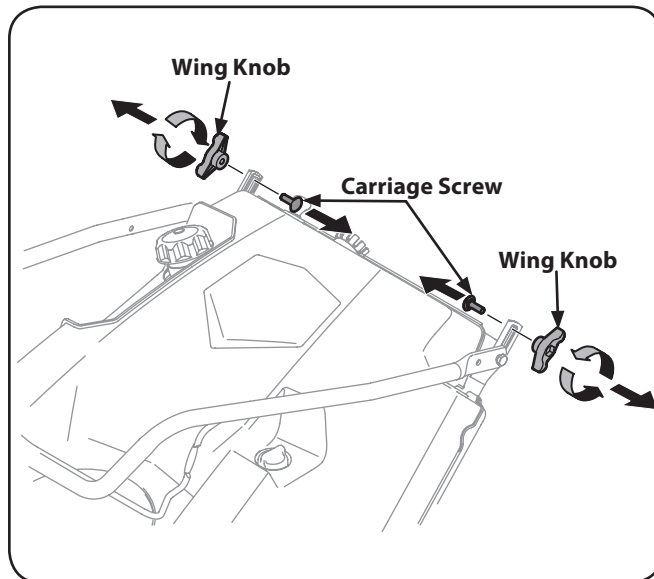

Figure 3-1
1. Remove the wing knob and carriage screw from the top of the lower handle. See Figure 3-1. It is not necessary to remove the shoulder screw and flange lock nut below the wing knob and carriage bolt.